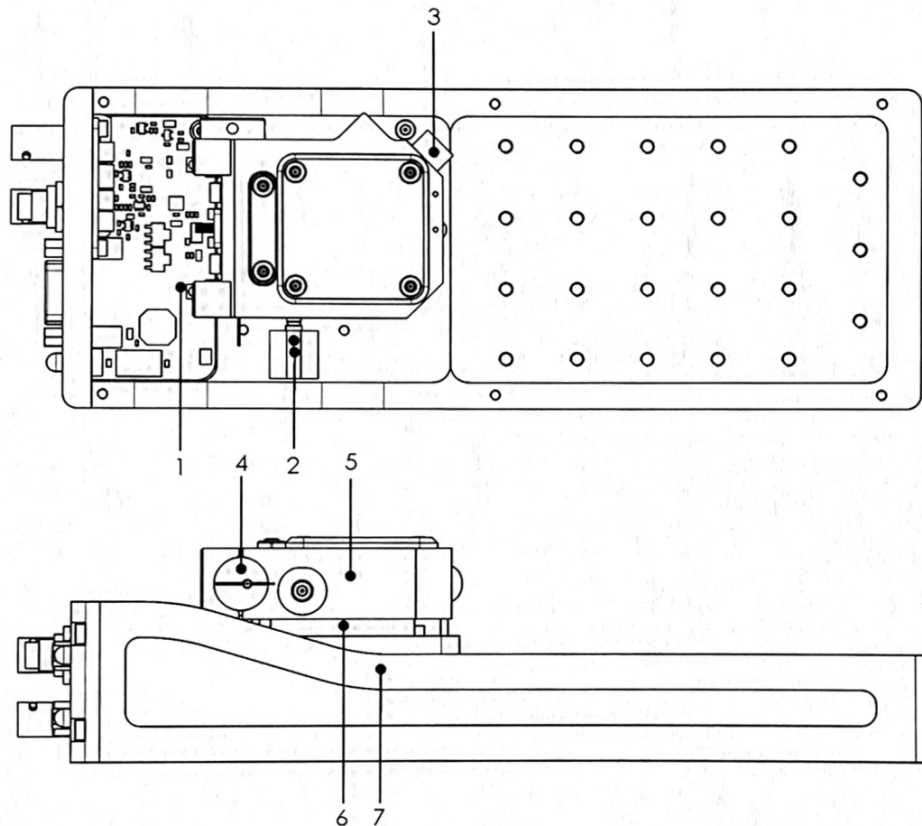

Figure 1: Laser setup by manufacturer under the protective cover (AG 2011). Product ID No.: DLpro_11236
- by tuning the grating angle by a fine threaded screw (2 in Figure 1) the wavelength may be varied up to 100nm (no realignment of optical set up required)